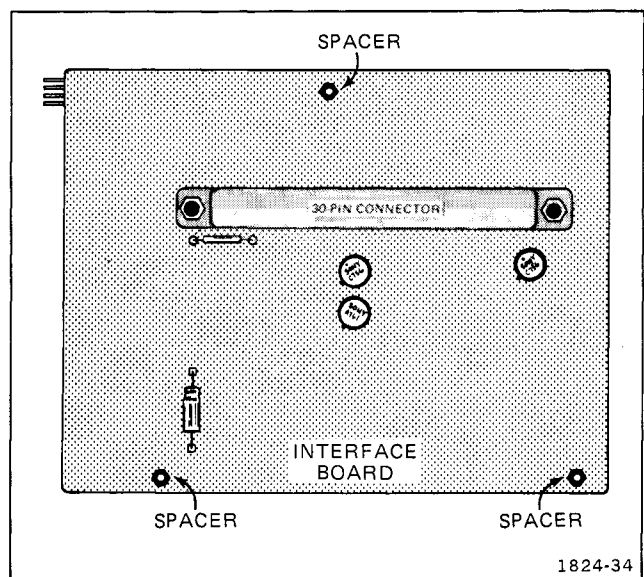

Fig. 4-6. Location of hexagonal spacers on Interface circuit board.
b. Remove 3 hexagonal spacers (see Fig. 4-6).